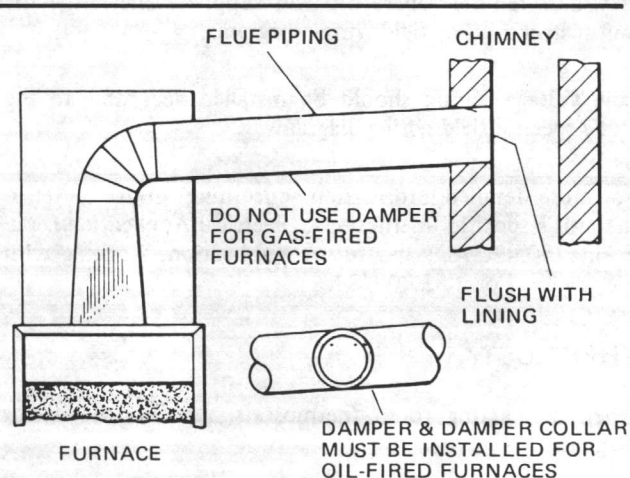

FIG. 9— TYPICAL FLUE PIPING
1. The diameter of the flue piping must be the same as the collar at the furnace outlet, or the round equivalent of the oval collar, typical flue piping is shown in Fig. 9.